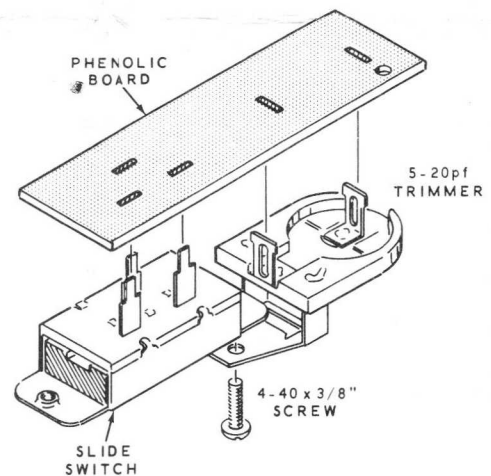

Figure 1
- ( ) Fasten the slide switch (#60-7) and the ceramic trimmer (#31-6) together with a 4-40 x 3/8" screw as shown in Figure 1. Be sure to position the switch as shown.
- ( ) Place the phenolic board over the capacitor and switch lugs as shown in Figure 1. Bend the lugs slightly outward to hold the switch in place on the board.